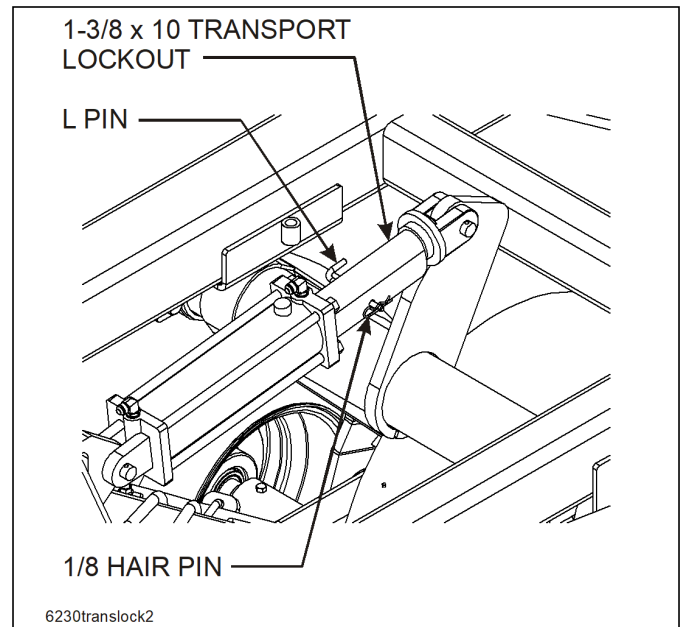

Figure 4-15: Installed Transport Locks
10. Install transport locks on lift system. Do not depend solely on implement hydraulics for transport. (See Figure 4-15.)